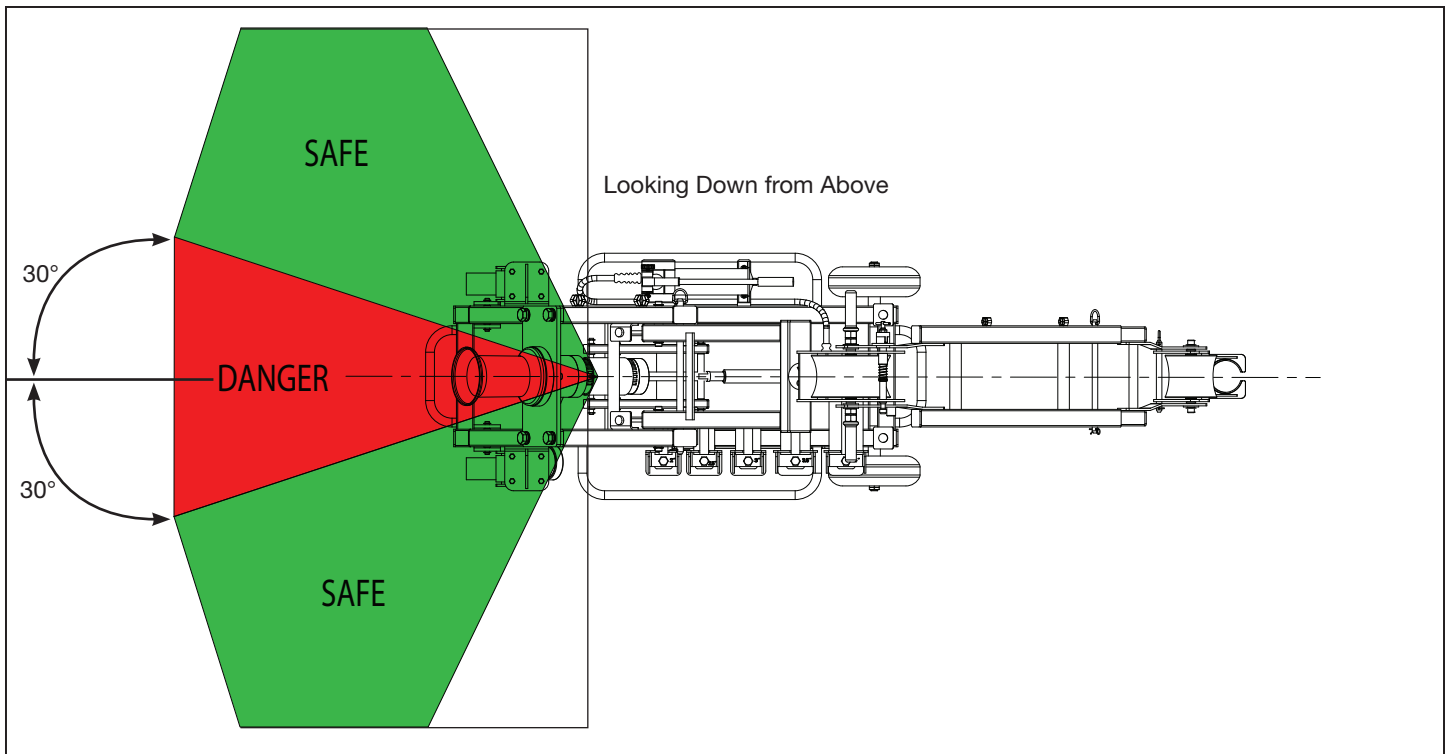

Figure 1. Stand in Safe Zone
3. Rope may beak or pulling grip may come loose under tension. Stand in the safe zone which is at least 30 degrees to either side of rope. (See Figure 1)